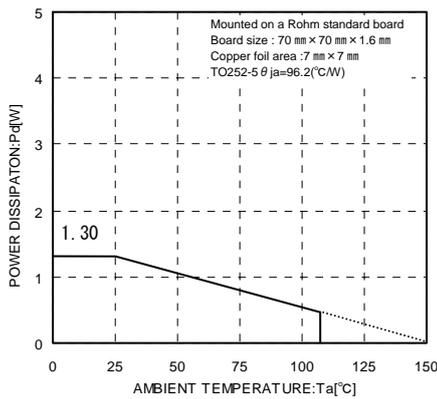
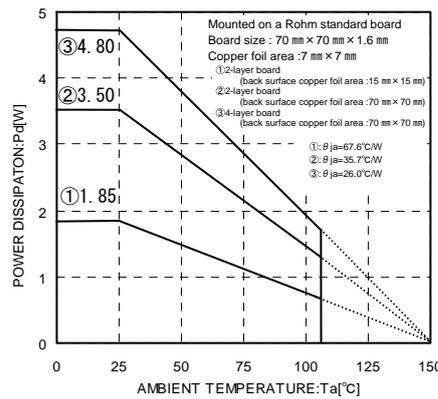

Fig.26
Fig.27(Reference data)
When using at temperatures over $T_a=25^\circ\text{C}$, please refer to the heat reducing characteristics shown in Fig.26 and Fig.27. The IC characteristics are closely related to the temperature at which the IC is used, so it is necessary to operate the IC at temperatures less than the maximum junction temperature $T_{j\text{max}}$.
Fig.26 and Fig.27 show the acceptable loss and heat reducing characteristics of the TO252-5 package. Even when the ambient temperature T_a is a normal temperature (25°C), the chip (junction) temperature T_j may be quite high so please operate the IC at temperatures less than the acceptable loss P_d .
The calculation method for power consumption $P_c(\text{W})$ is as follows :(Fig.27③)
$$I_o \leq \frac{2.496 - 10 \times I_b}{5} \quad \left[\begin{array}{l} \text{Fig.27③: } \theta_{ja}=26.0^\circ\text{C/W} \rightarrow -38.4\text{mW}/^\circ\text{C} \\ 25^\circ\text{C}=4.80\text{W} \rightarrow 85^\circ\text{C}=2.496\text{W} \end{array} \right]$$